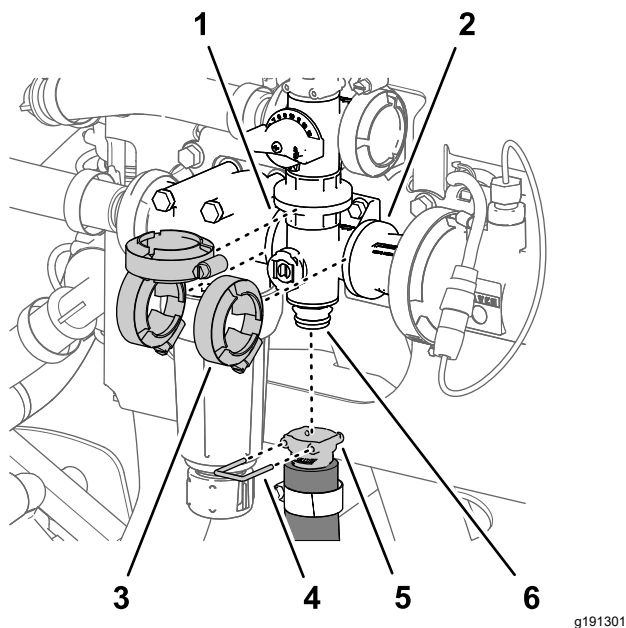

Figure 131
- Align the flange of the agitation-valve manifold and 3 gaskets with the flanges of the agitation-bypass valve, pressure filter head, and coupling adapter (Figure 130 and Figure 131).
2. Loosely secure the agitation-valve manifold to the agitation-bypass valve, pressure filter head, and coupling adapter (Figure 131) with the 3 flange clamps that you removed in Removing the Agitation-Manifold Valve (page 82).
5. Tighten the 3 flange clamps by hand (Figure 131).
6. Assemble the quick-connect coupler of the agitation hose onto the quick-connect fitting of the agitation-valve manifold with the quick-connect pin (Figure 131).